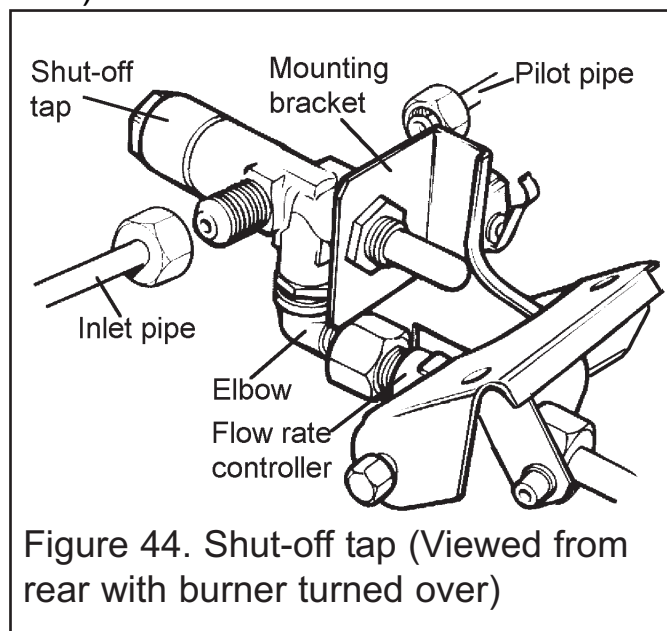

Figure 44. Shut-off tap (Viewed from rear with burner turned over)
16.15 To remove the shut-off tap. (See figure 44).